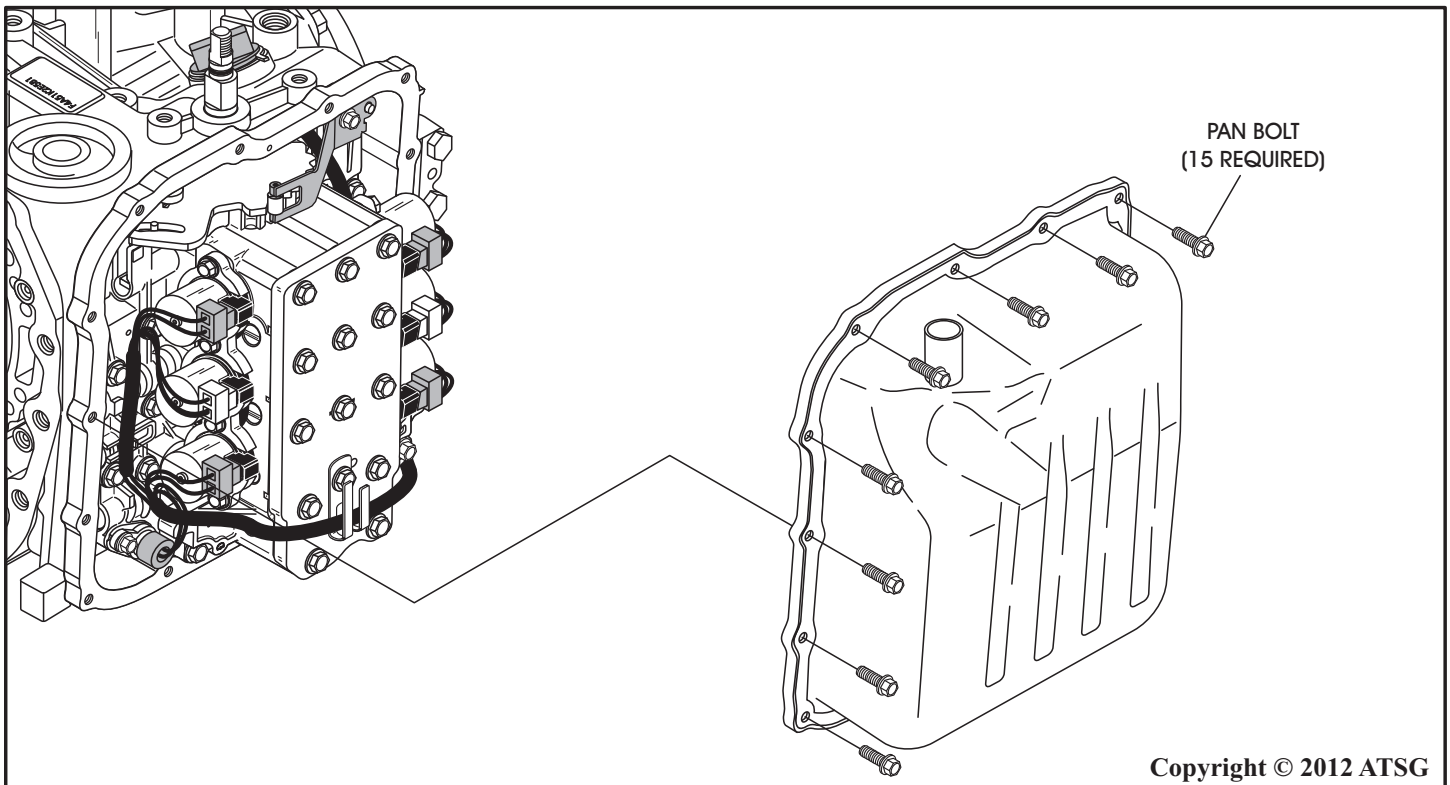

Figure 51
1. Remove the 15 pan bolts and remove the oil pan, as shown in Figure 51.